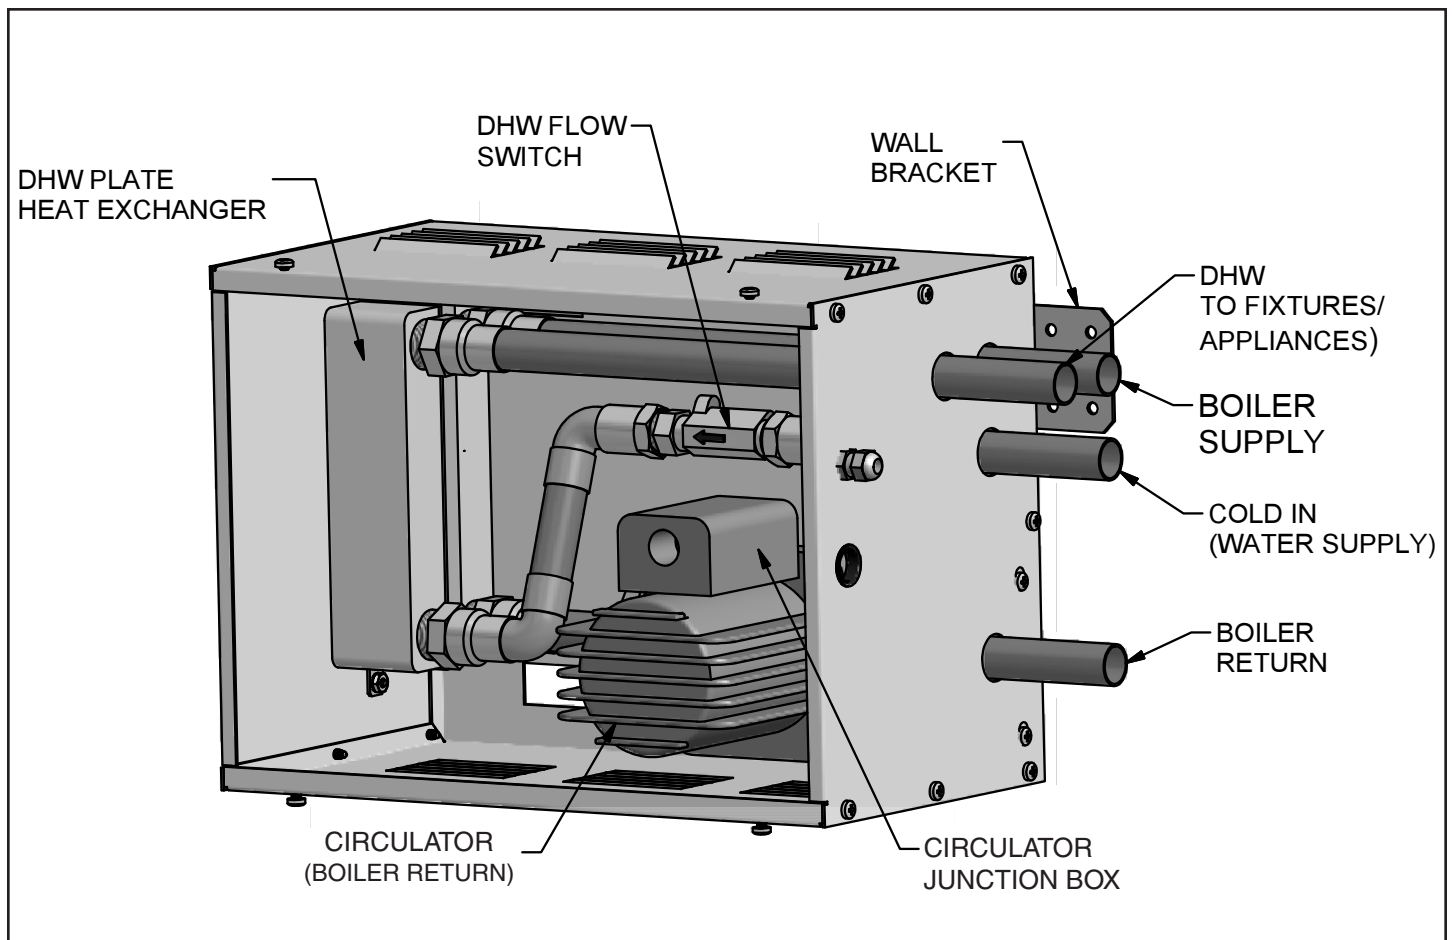

Figure 1. Components and piping of Combi-cat DHW system.
1. See Figure 1 for the identification and location of each component and piping connection provided in the DHW system.